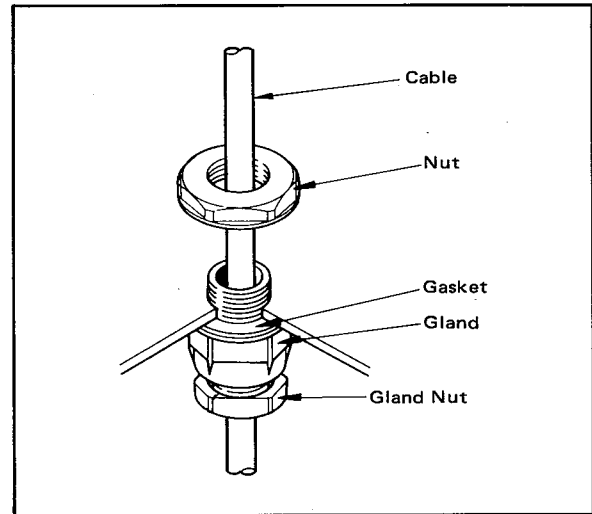

Figure 2-12. Cable Gland Installation.
- (4) Mount the cable gland in the wiring hole (see Figure 2-12). Attach the nut in position and tighten the gland firmly. When tightening the gland nut, be careful not to twist the cable. When the gland is mounted, tighten the gland nut firmly on the gland to keep out moisture. However, if the gland nut is screwed too tight, the cable may be damaged.